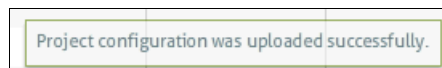

Figure 10-76 Project uploaded successfully
7. A success message is displayed, as shown in Figure 10-76. Be aware that this message closes quickly.